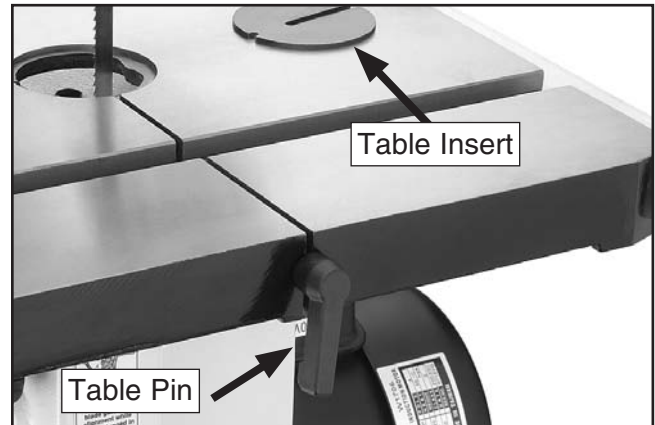

Figure 50. Table insert and table pin.
4. Remove the fence and miter gauge from the table, then remove the table insert and table pin (see **Figure 50**).